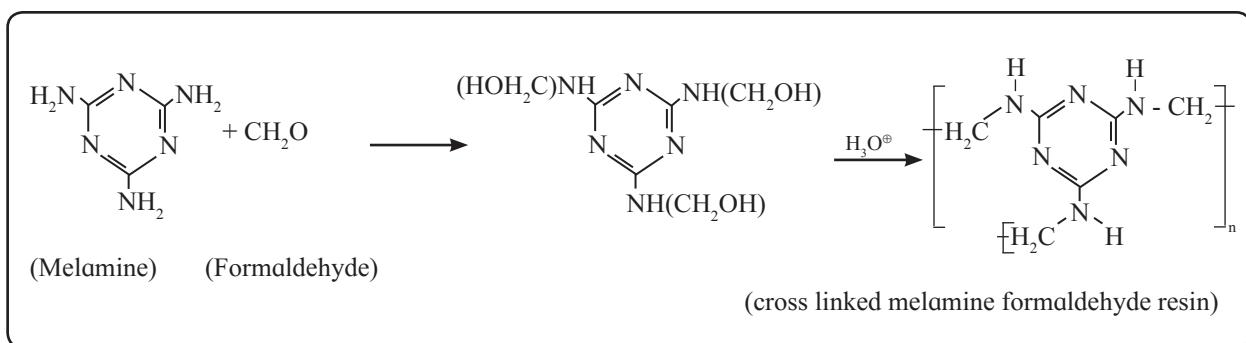

Fig. 15.4 Formation of cross linked melamine formaldehyde resin
b. Melamine-formaldehyde polymer : Decorative table tops like formica and plastic dinner-ware are made from heat and moisture resistant themosetting plastic called melamine - formaldehyde resin. The reactions are shown in Fig. 15.4. Melamine and formaldehyde undergo condensation polymerisation to give cross linked melamine formaldehyde.